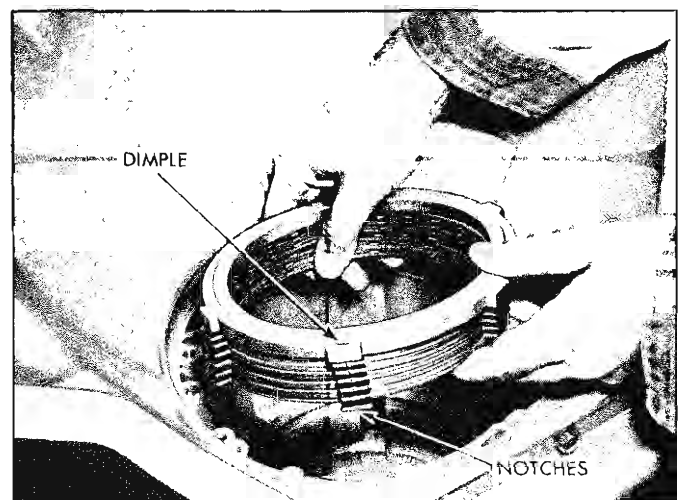

Fig. 35—Installing Clutch Plates
11. Lubricate and install the reverse clutch pack (fig. 35) beginning with a reaction (spacer) plate and alternating with the drive plates (faced) until the six reaction plates and six drive plates are